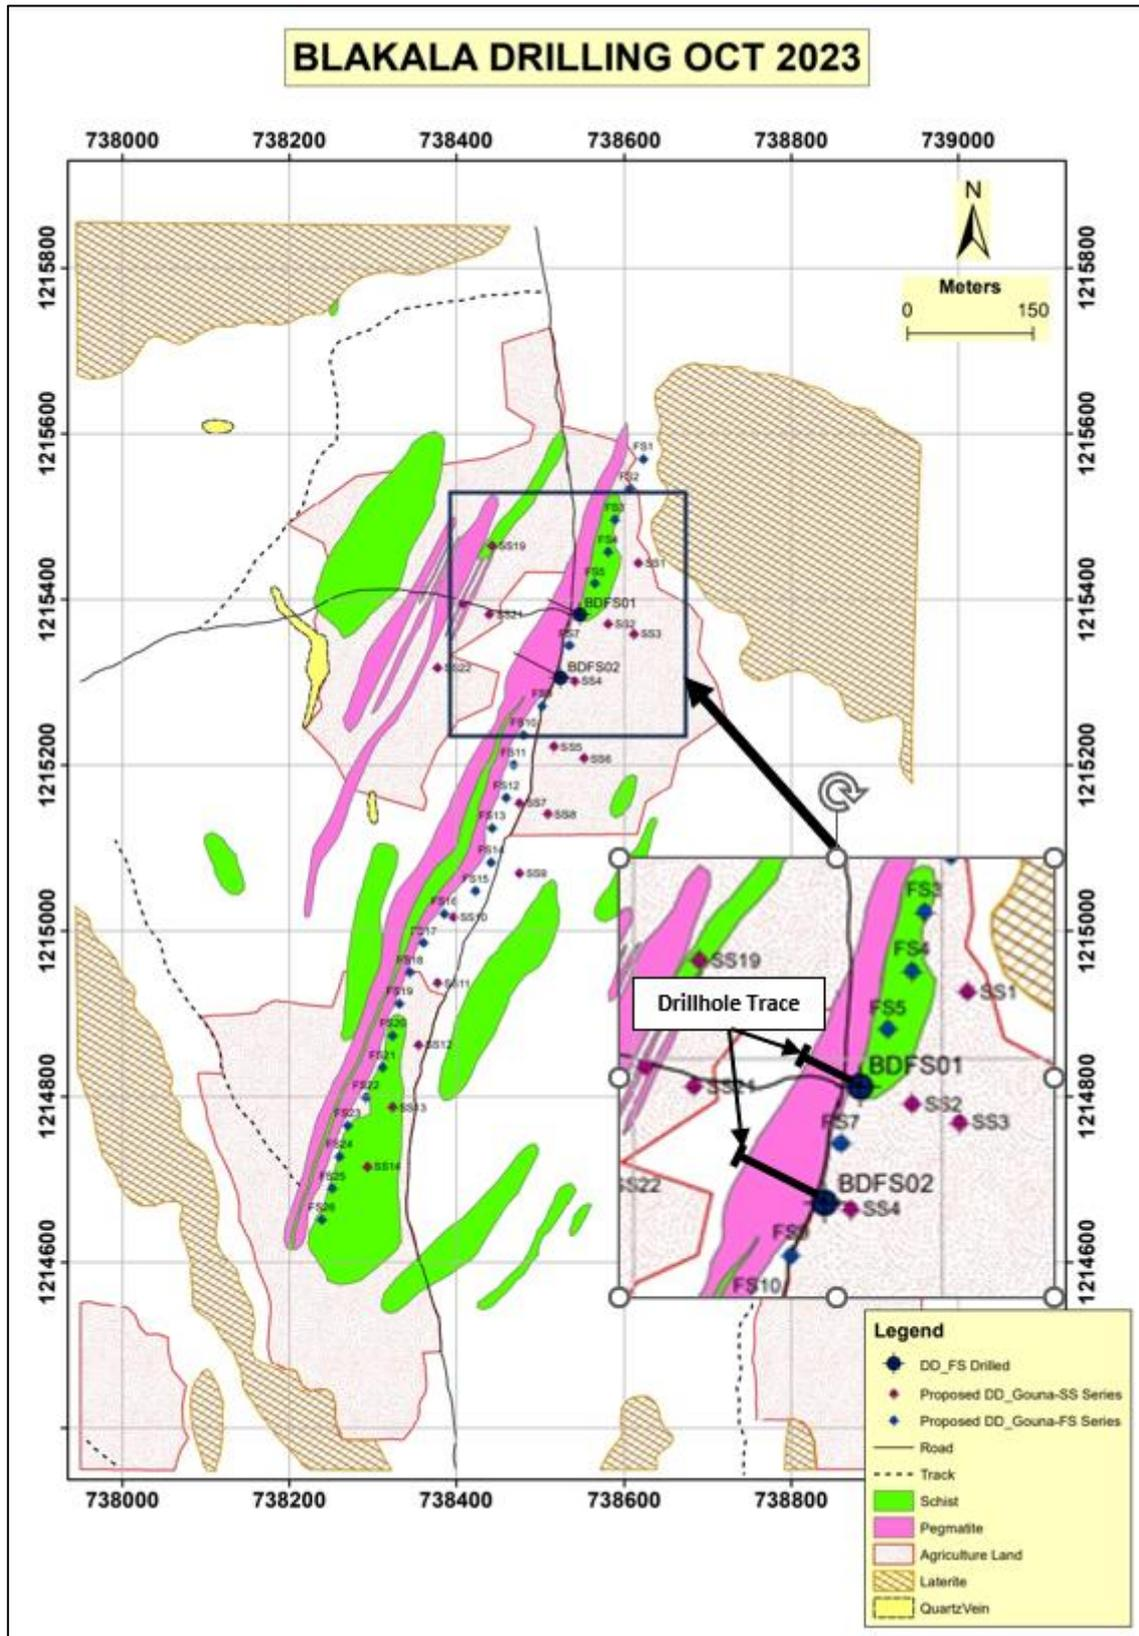
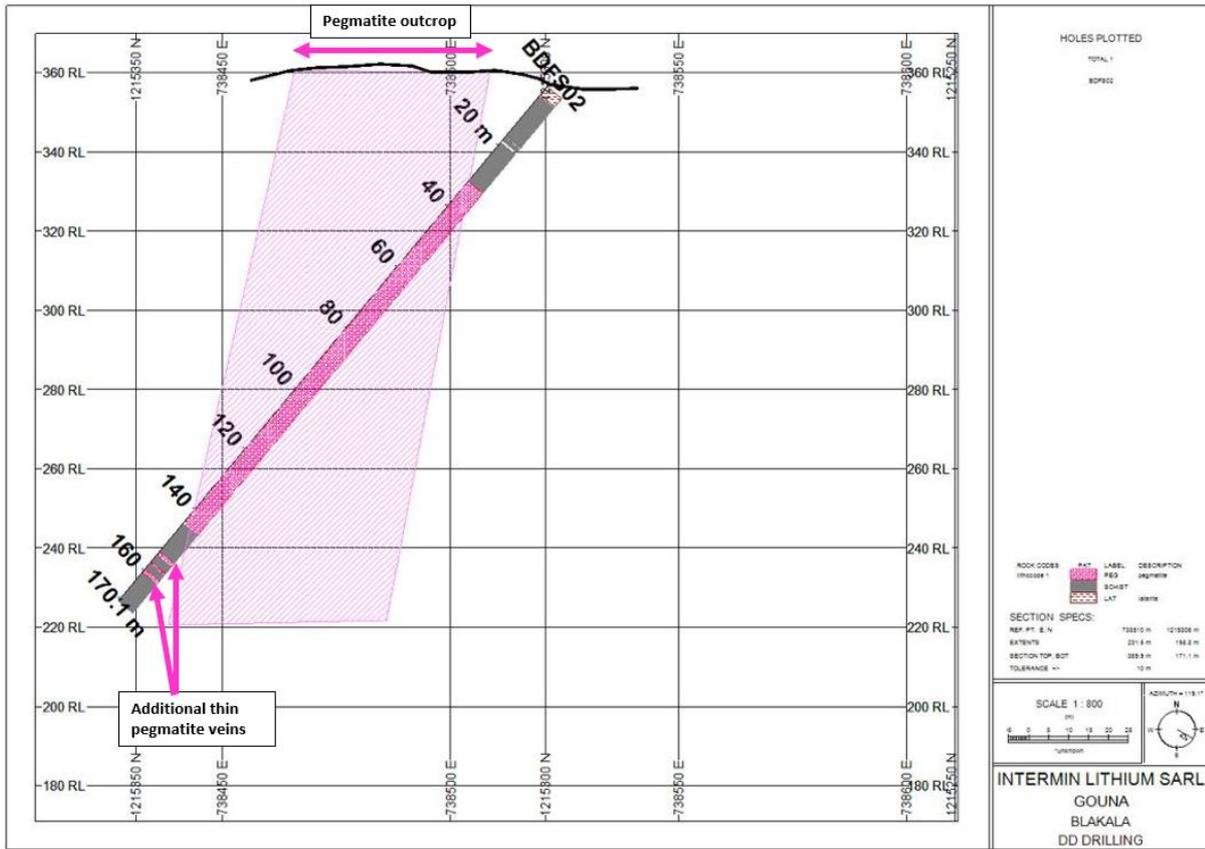

Figure 1: Locality of two completed diamond drillholes at the Blakala prospect, as well as all the mapped pegmatites on the licence.
Figure 2: Cross section showing the pegmatite intersection of BDFS02
First Lithium Ltd (“FL1” or “the Company”) is pleased to announce the successful completion of the first two (2) diamond drillholes at its priority 1 lithium prospect, Blakala, located on the Gouna Permit in Mali (Figure 1). The drilling program is part of the Company’s first exploration program to delineate the extent of known spodumene bearing pegmatites with substantive surface expression with approximately 6,000m of diamond drilling to depths of up to 300m planned for the program (ASX:FL1 26/10/23).
Drilling of the 6,000m drilling program started in the north of the Blakala prospect, with a line of holes drilling less than 20m from the main Blakala pegmatite body (Figure 1). The first two (2) diamond drillholes, holes BDFS01 and BDFS02, have been completed with end of hole depths of 80.70m and 172.00m respectively (Table 1). Significant pegmatite intersections are found in both drillholes, 4.58m and 5.05m from 2 pegmatites in BDFS01 respectively; and 112.80m from 1 thick pegmatite in BDFS02 (Figure 2)(Table 1). Additional, thinner pegmatite intersections are found in both holes (Table 1). Previous pegmatite outcrop mapping and trenching verifies the thicknesses from the drilling, with mapping of the main pegmatite showing thicknesses between 10m to 45m (Figure 1). The main pegmatites have been found to be very well mineralised throughout, with spodumene crystals up to 10 cm in length (Figure 3). All the pegmatite intersections showed the top and bottom contacts of the pegmatites to be very steeply dipping, mostly close to vertical (Figure 4). Double shift drilling is taking place, with a daily drilling average of ~50m per day. Due to the positive pegmatite intersections from the drilling, as well as the clear mineralisation, an additional diamond drill rig will be mobilized to Blakala within the next two (2) weeks. A continuous cycle of samples will be sent to a certified Analytical laboratory during the drilling and continuing trenching programs, with assay results expected every 3-4 weeks.